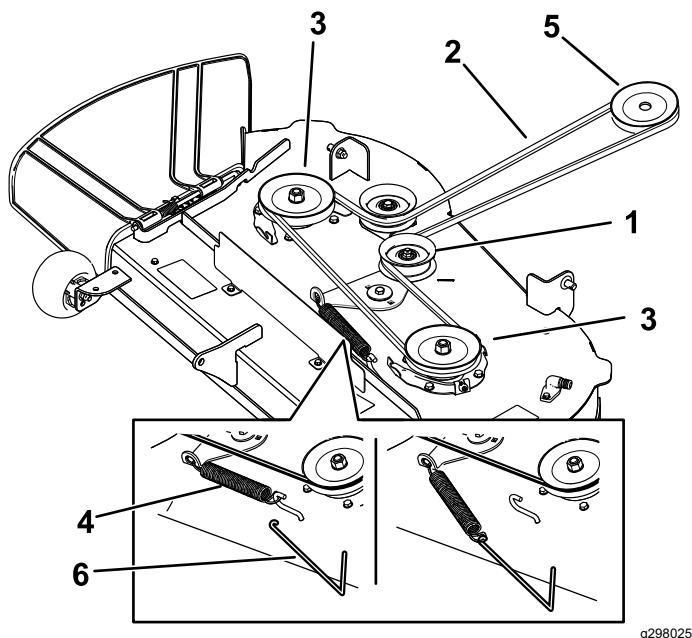
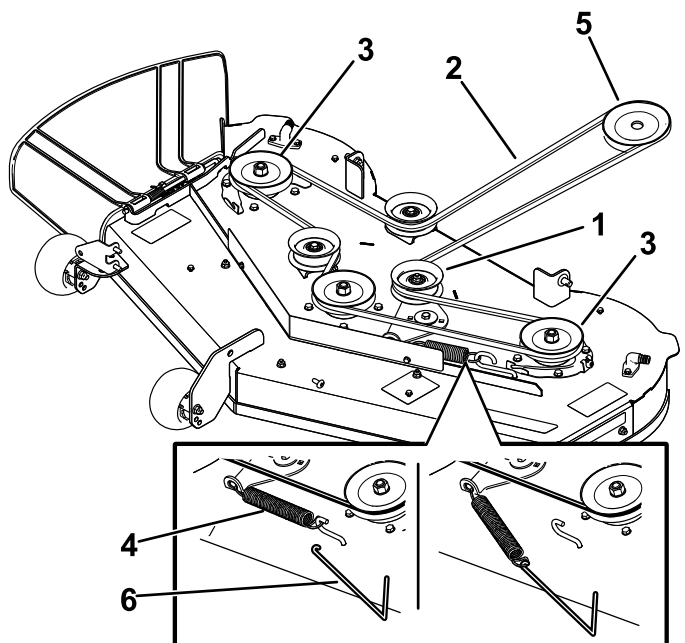

Figure 57
Figure 58
7. Using a spring-removal tool (Toro Part No. 92-5771), remove the idler spring from the deck hook to remove tension on the idler pulley, and roll the belt off the pulleys (Figure 57 or Figure 58).
8. Route the new belt around the engine pulley and mower pulleys (Figure 57 or Figure 58).
9. Using a spring-removal tool (Toro Part No. 92-5771), install the idler spring over the deck hook and place tension on the idler pulley and the mower belt (Figure 57 or Figure 58).